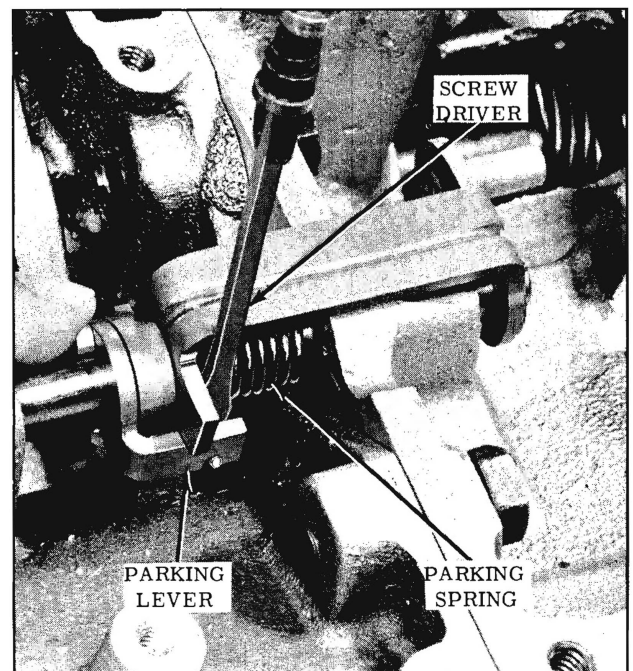

Fig. 3-314 Installing Parking Lever Spring
51. Hook curved end of spring into notch on parking lever. (Fig. 3-314)